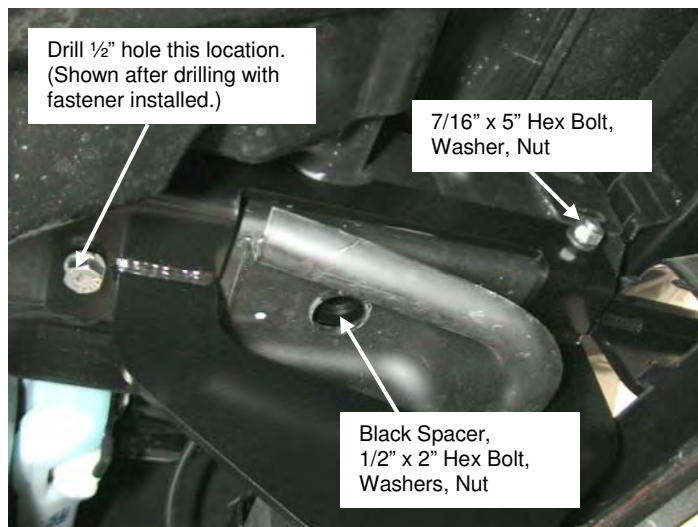

Figure 1 Placement of the Frame Bracket (Driver Side)
1. Install the frame bracket temporarily on the passenger side frame using the 7/16" x 5" bolt and 7/16" lock washer and nut provided in kit. The bracket uses the same hole as the long bolt from the tow loop. Repeat for driver side frame. (See figure 1.)
9. Install a 1/2" x 1 1/2" bolt in the rear hole of each lower bracket. Use a 1/2" flat washer and 1/2" lock washer with each bolt. See figure 1.